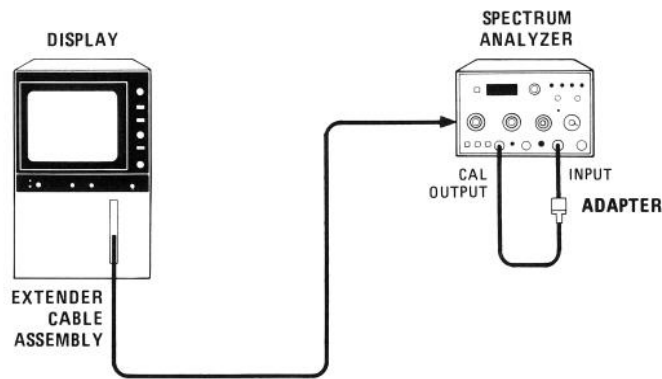

FIGURE 5-6. CRYSTAL AND LC BANDWIDTH FILTER ADJUSTMENT TEST SETUP
2. Connect equipment as shown in Figure 5-6.